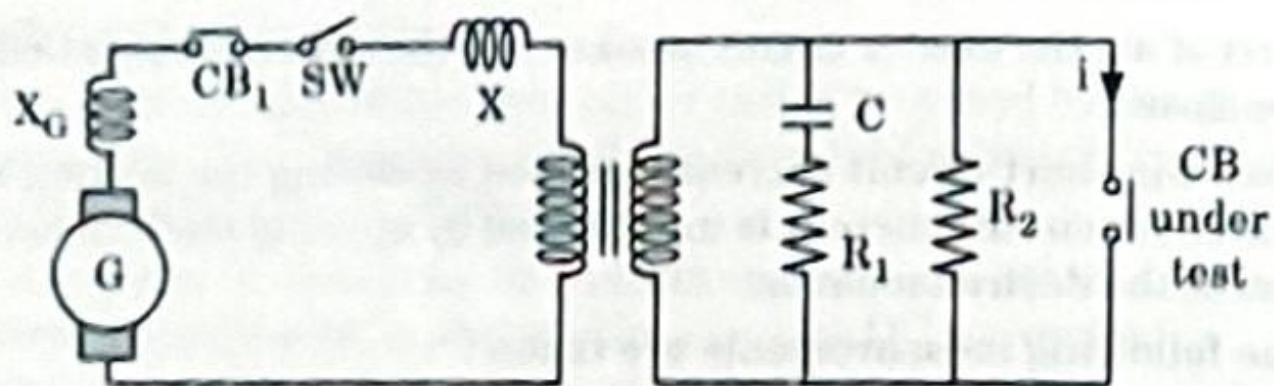

Fig. 4.20.1.
1. In direct testing, a circuit breaker is subjected to full power or stress. The circuit of direct testing of single phase circuit breaker is shown in the Fig. 4.20.1.